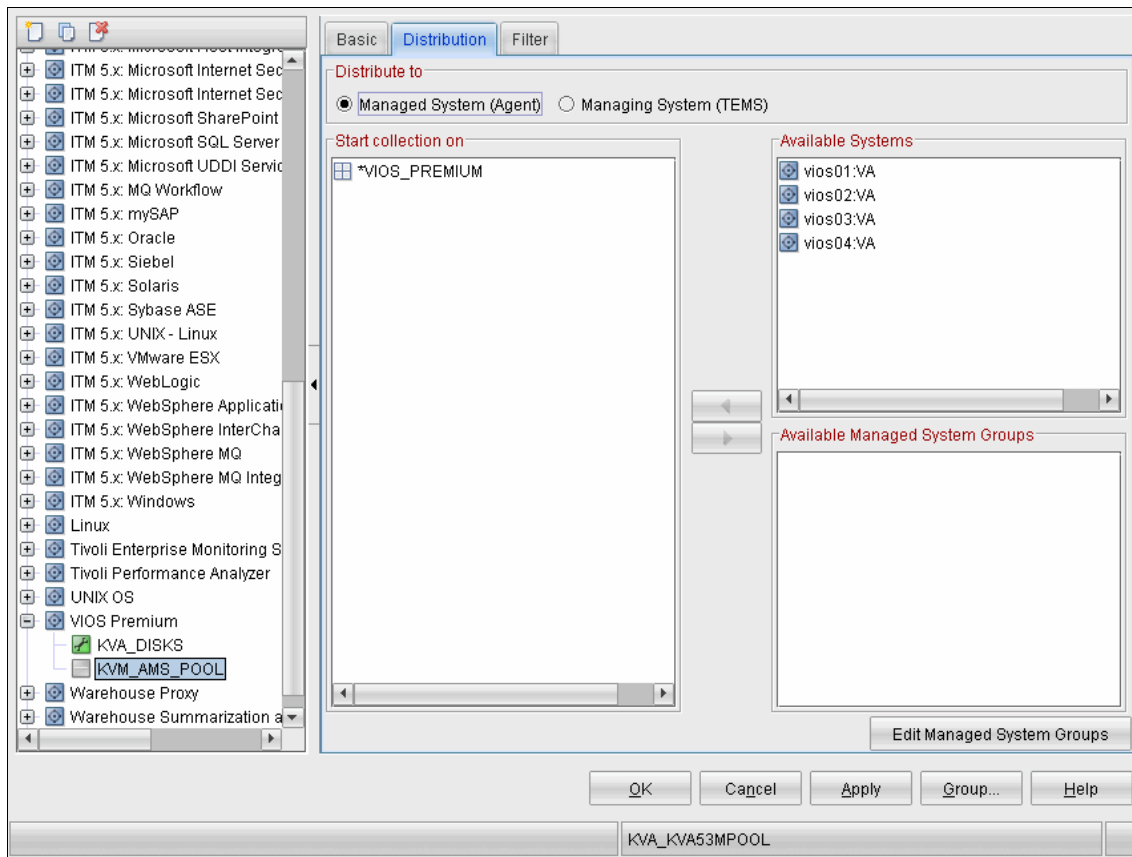

Figure 18-22 Specifying which managed systems to apply history collection to
5. Define the nodes for the collection to be applied to in the Distribution tab, as in Figure 18-22.